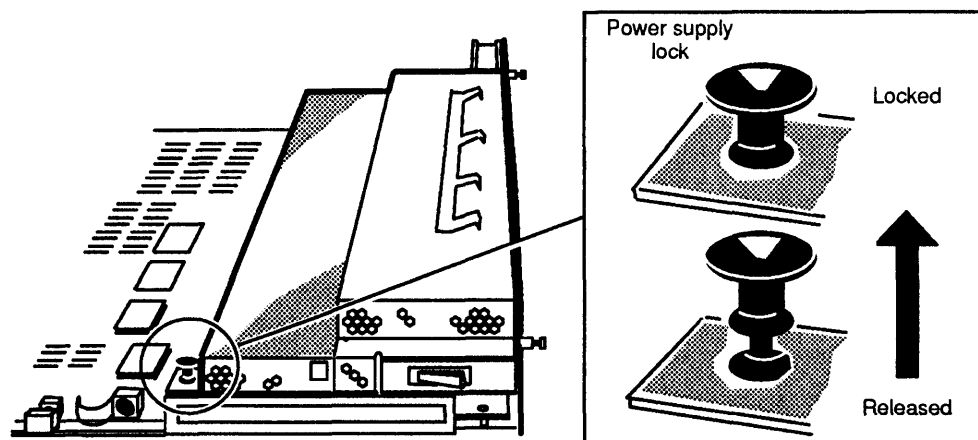

Figure 4-43 Releasing the Power Supply Lock
3. Release the power supply lock by gently pulling it up, as shown in Figure 4-43.